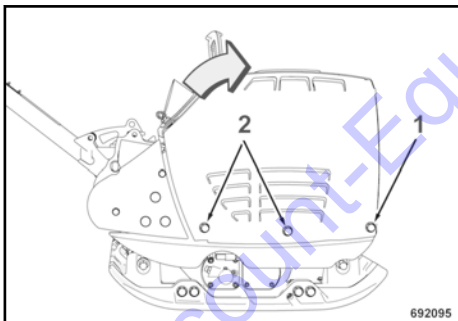

Fig. 41
Loosen the hood fasteners (1) on both sides and remove the fasteners (2) from both sides → Fig. 41.